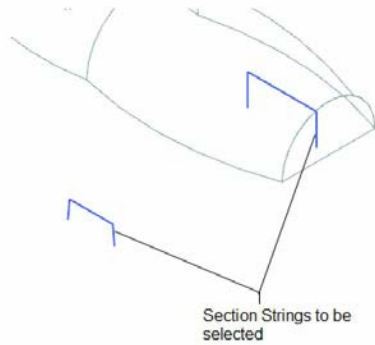

Figure 11-97 *Sections to be selected*
7. Select all elements from the first section string, refer to Figure 11-97, and then press the middle mouse button; you are prompted to select a section again.